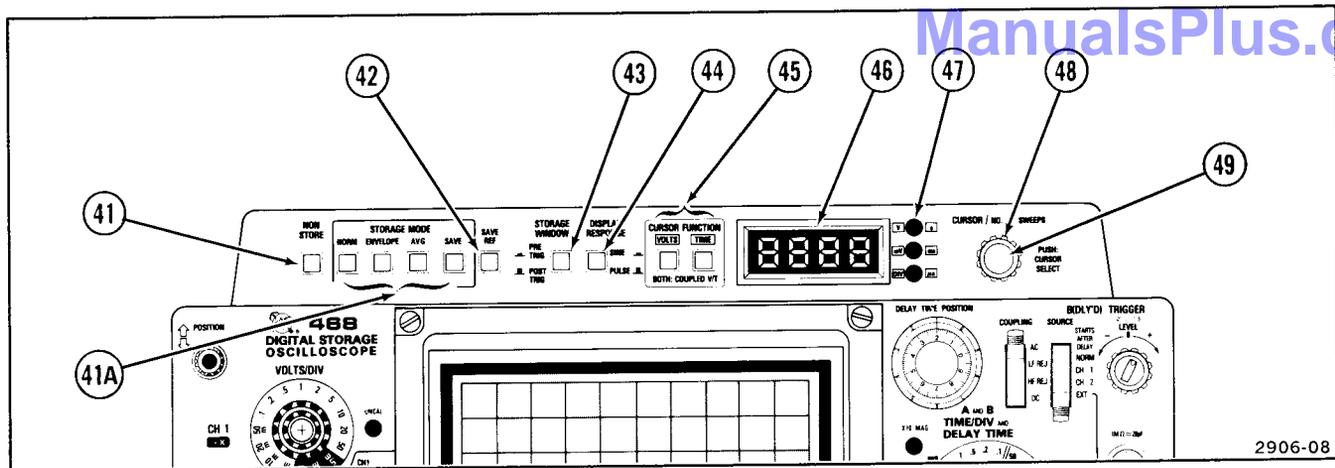

Figure 8. Digital storage controls and indicators.
Refer to Figure 8 for location of items 41 through 49.